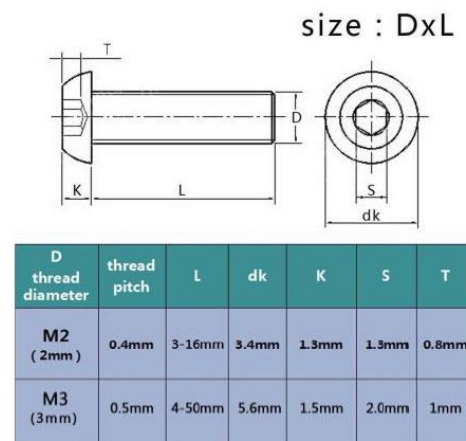

Figure 12: Typical M3 hole size
- To add screw holes to the board, select **Place** → **Pad** then place them to the workspace. The dimensions of a pad can be adjusted via the **Properties** panel as shown in the Figure 12.